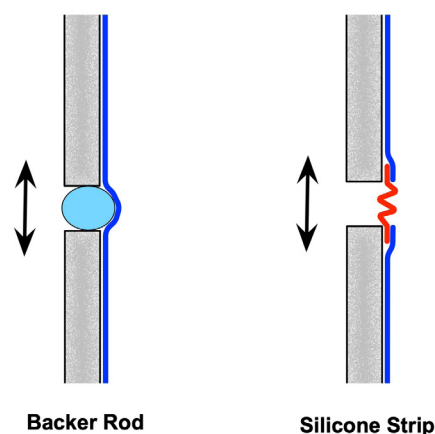

Figure 7: Two strategies for allowing movement of a membrane crossing a joint via geometry
- ▶ The second strategy is to use a membrane that provides air, water, and vapor control and use the geometry of the membranes installation to allow the movement to occur unhindered while also not damaging the membrane itself (Figure 7).